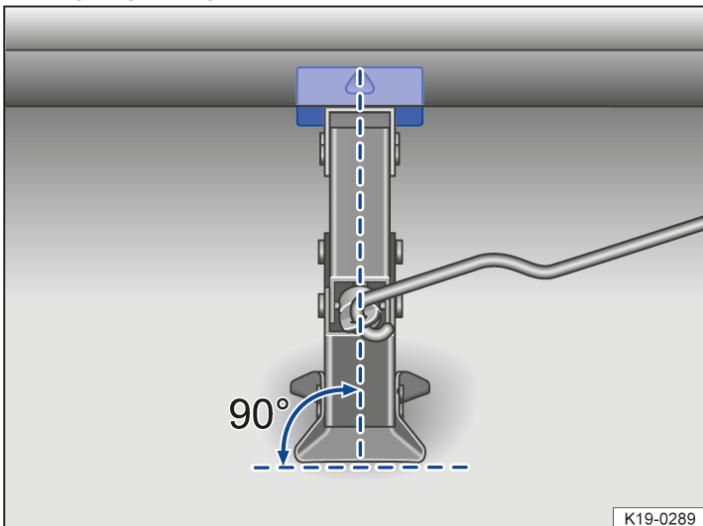
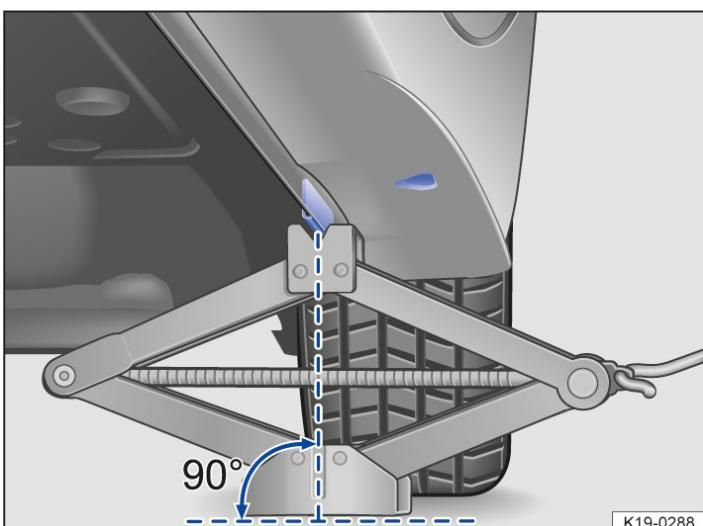

Fig. 2 Correct alignment of the jack.
Fig. 3 Scissors jack applied at the rear on the left-side of the vehicle.
10. Make sure that the entire surface of the foot of the jack is resting securely on the ground and that the foot of the jack is positioned vertically directly beneath the jacking point *→ Fig. 2* and *→ Fig. 3*.
11. Position the jack and simultaneously continue to crank the claw up until it is in position around the vertical rib underneath the vehicle *→ Fig. 2*.
- Fit the jack only at the described jacking points. The jack claw must grip the vertical rib under the side member securely *→ Fig. 3* or *→ Fig. 2*.